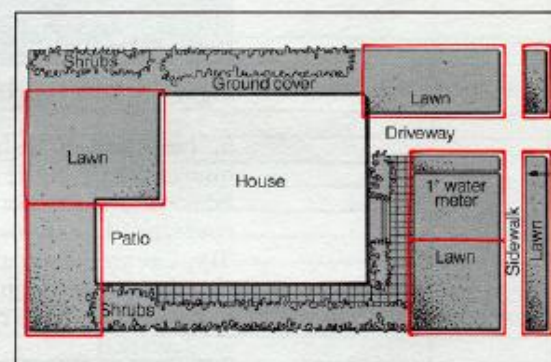

Figure 2: Label lawn area.
3. Label each lawn area according to its surface: grass, shrubs, flowers, ground cover (Figure 2).